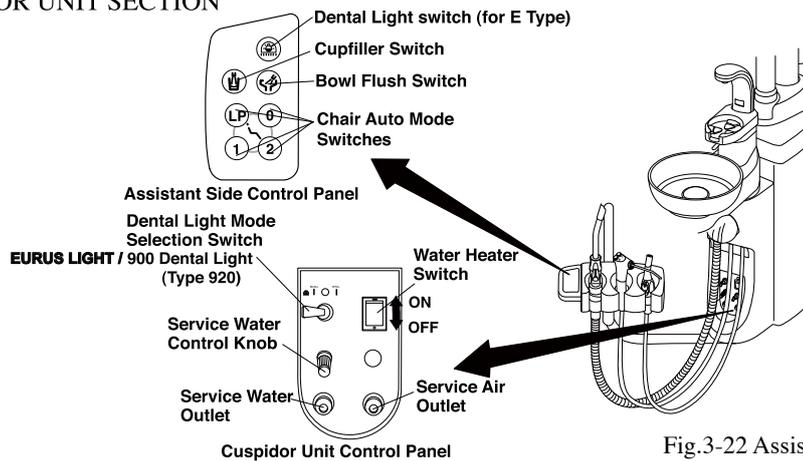

Fig.3-22 Assistant Side Control Panel and Cuspidor Unit Control Panel
#### (1) Assistant Side Control Panel (Fig.3-22)
#### (2) Cuspidor Unit Control Panel (Fig.3-22)
##### B. Water Heater Switch (Fig.3-22)
##### C. Service Water Outlet (Fig.3-22)
##### D. Service Water Outlet Control Knob (Fig.3-22)
##### E. Service Air Outlet (Optional)(Fig.3-22)